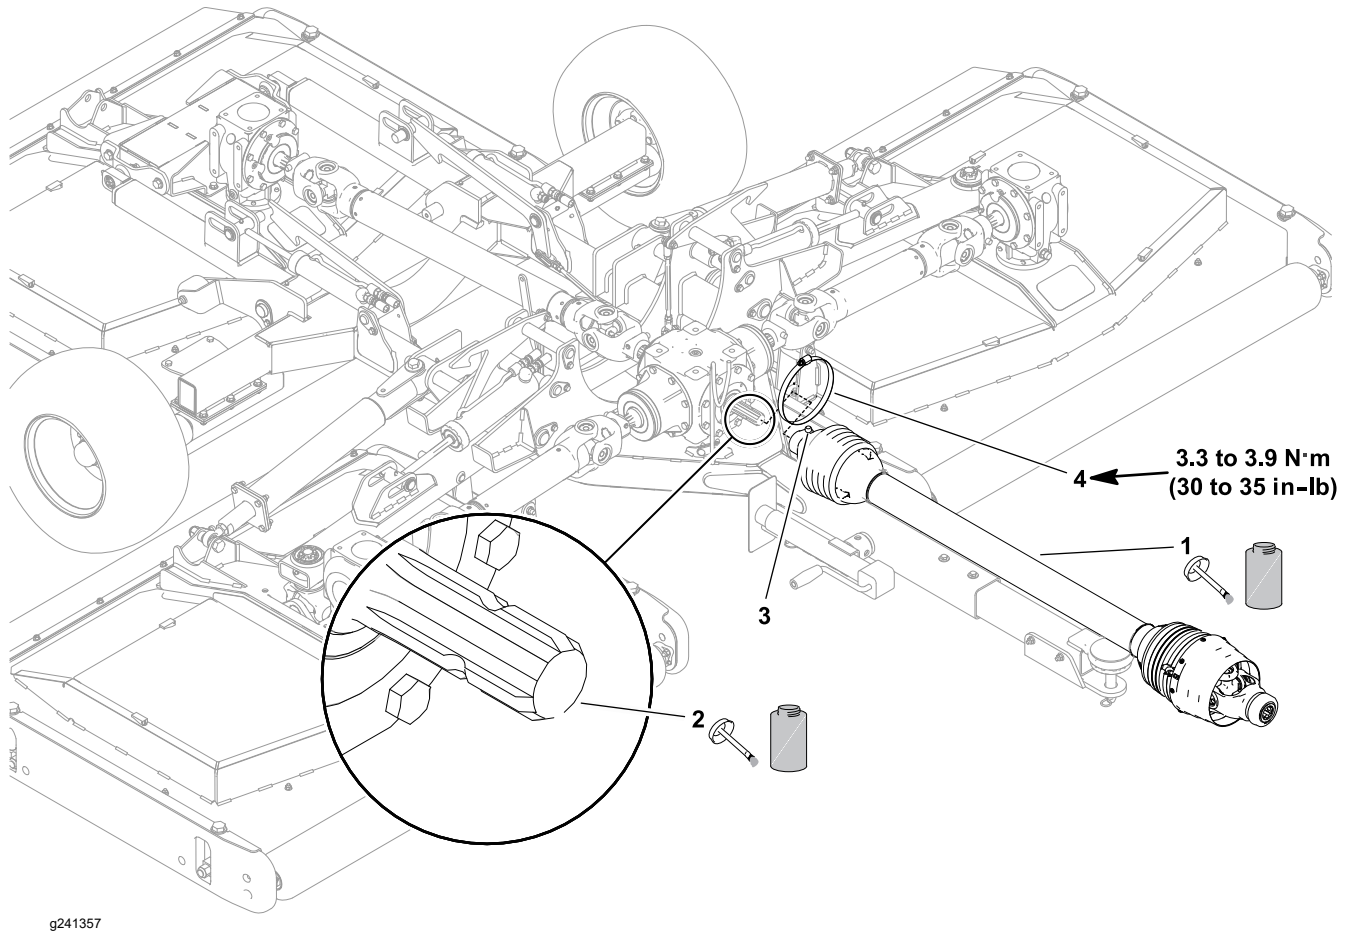

Figure 31
1. Apply antiseize lubricant to the splines of the center gear box shaft (item 2 in Figure 31) and main drive shaft (1).